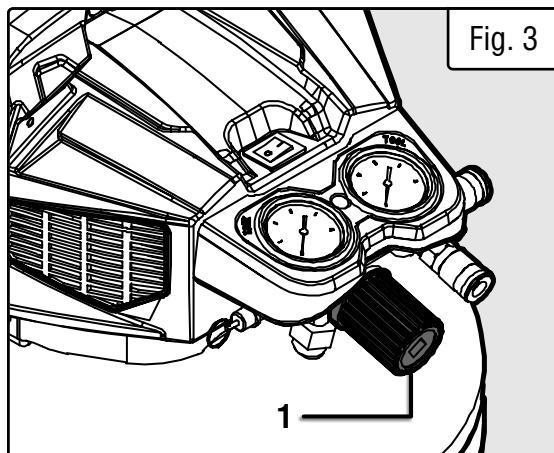

Fig. 3
2. Turn the regulator knob (Fig. 3 - 1) to the “+” position to fully open the pressure regulator valve.